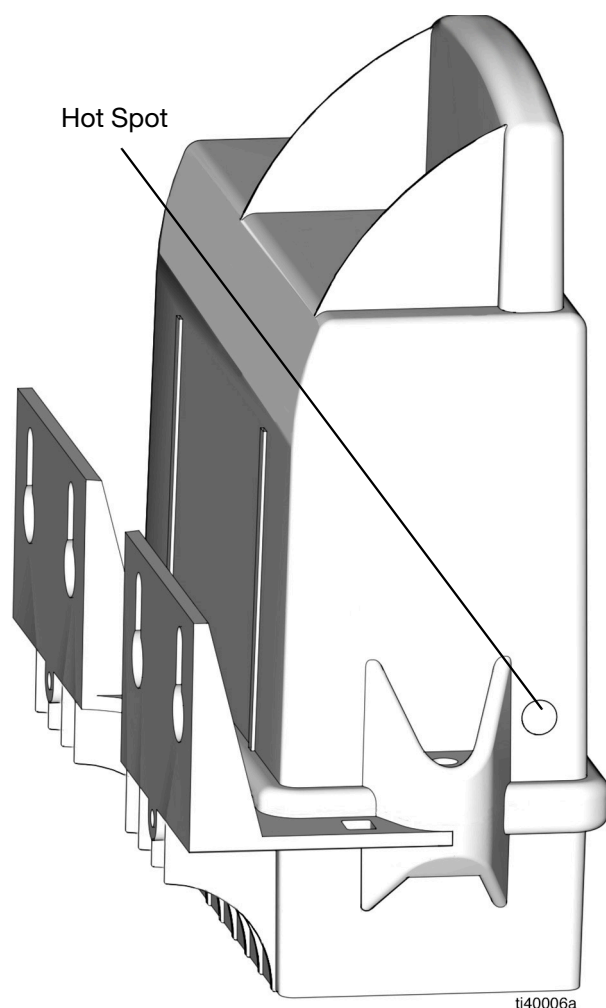

FIG. 7
After configuring the TLM using the Pulse Level, apply the magnet to the hot spot, which causes the TLM to make short chirps (once per second). Hold the magnet in place until a long beep is heard. The TLM makes short chirps as it creates a connection with Pulse Level (FIG. 7).
1. Hold the magnet (supplied) to the Hot Spot marked by the yellow sticker on the side of the device (FIG. 7).